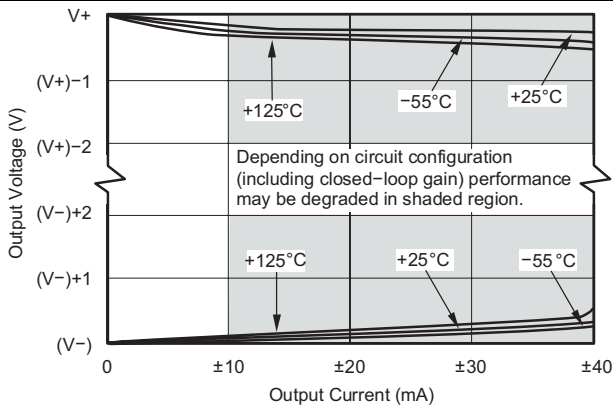

Figure 17. Output Voltage Swing vs Output Current
(4) Output voltage swings are measured between the output and power supply rails.
(5) See Figure 17.
A class AB output stage with common-source transistors achieves rail-to-rail output. For light resistive loads ( $>10$  k $\Omega$ ), the output voltage swing is typically ten millivolts from the supply rails. With heavier resistive loads (600  $\Omega$  to 10 k $\Omega$ ), the output can swing to within a few tens of millivolts from the supply rails and maintain high open-loop gain. See Figure 17 and Figure 18 for more information.